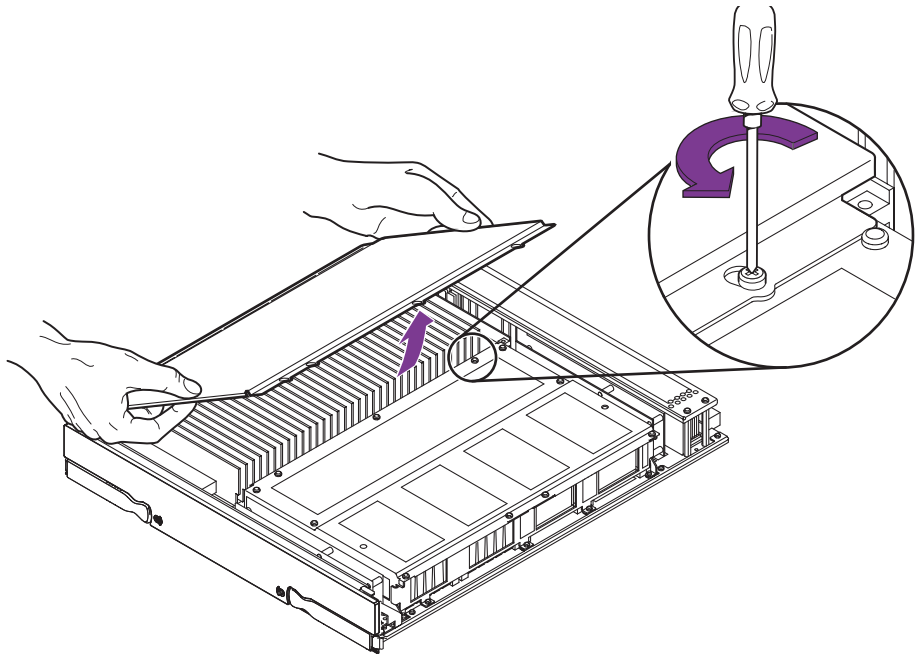

FIGURE 9-10 Removing the DIMM Cover
3. Remove the four screws that retain the DIMM cover. Remove the cover (FIGURE 9-10).
3. Remove the four screws retaining the DIMM cover. Remove the cover (FIGURE 9-10).